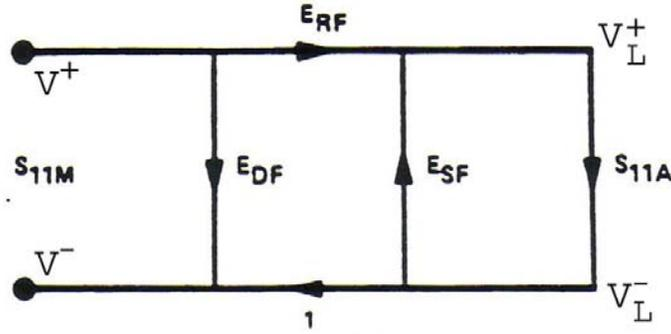

Figure 5.3 The “signal flow graph” for the S11 calibration³.
The signal flow graph of Fig. 5.3 is the model of the S-parameter test set used in the calibration procedure. The true reflection coefficient of the unknown load is $S_{11A} = \frac{V_L^+}{V_L^-}$. The network analyzer measures $S_{11M} = \frac{V^-}{V^+}$. The measured reflection coefficient S_{11M} differs from the true reflection coefficient S_{11A} because of imperfections in the S-parameter test set. The signal flow graph of Fig. 5.3 accounts for three kinds of errors. The directional coupler separates the forward-traveling wave from the backward-traveling wave. The “directivity” of the coupler⁴ is a measure of the extent to which the backward wave is corrupted by the forward wave. This gives rise to the directivity error E_{DF} : the directional coupler delivers a small part of the “incident” voltage directly to the “reflected” port. “Frequency tracking” refers to differences in path length and path loss between the test channel and the reference channel, which change as the frequency changes. The frequency-tracking error E_{RF} accounts for these differences. The “source match” error E_{SF} accounts for the small mismatch between the characteristic impedance of the components inside the S-parameter test set and the true value of 50 ohms. The signal flow graph of Fig. 5.3 can be solved to obtain
1. Derive Equations (8) and (9) from the signal flow graph of Fig. 5.3.
2. Solve Equations (10), (11) and (12) to find the values of E_{DF} , E_{RF} and E_{SF} in terms of the three “calibration” measurements S_{MA} , S_{OC} and S_{SC} .